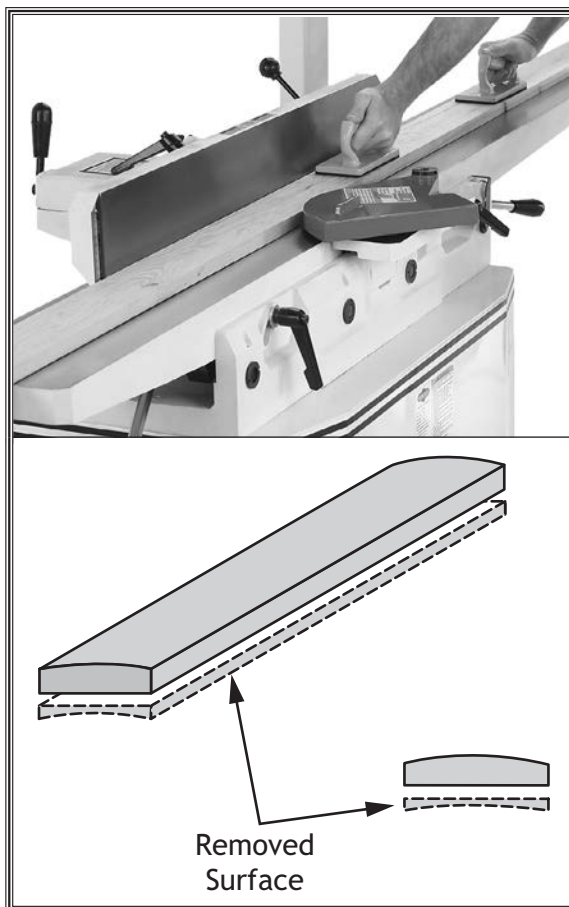

Figure 22. Example of a typical surface planing operation.
The purpose of surface planing (see **Figure 22**) on the jointer is to make one flat face on a piece of stock to prepare it for thickness planing on a planer.
5. Place workpiece firmly against fence and infeed table with concave side facing down, as shown in **Figure 22**.